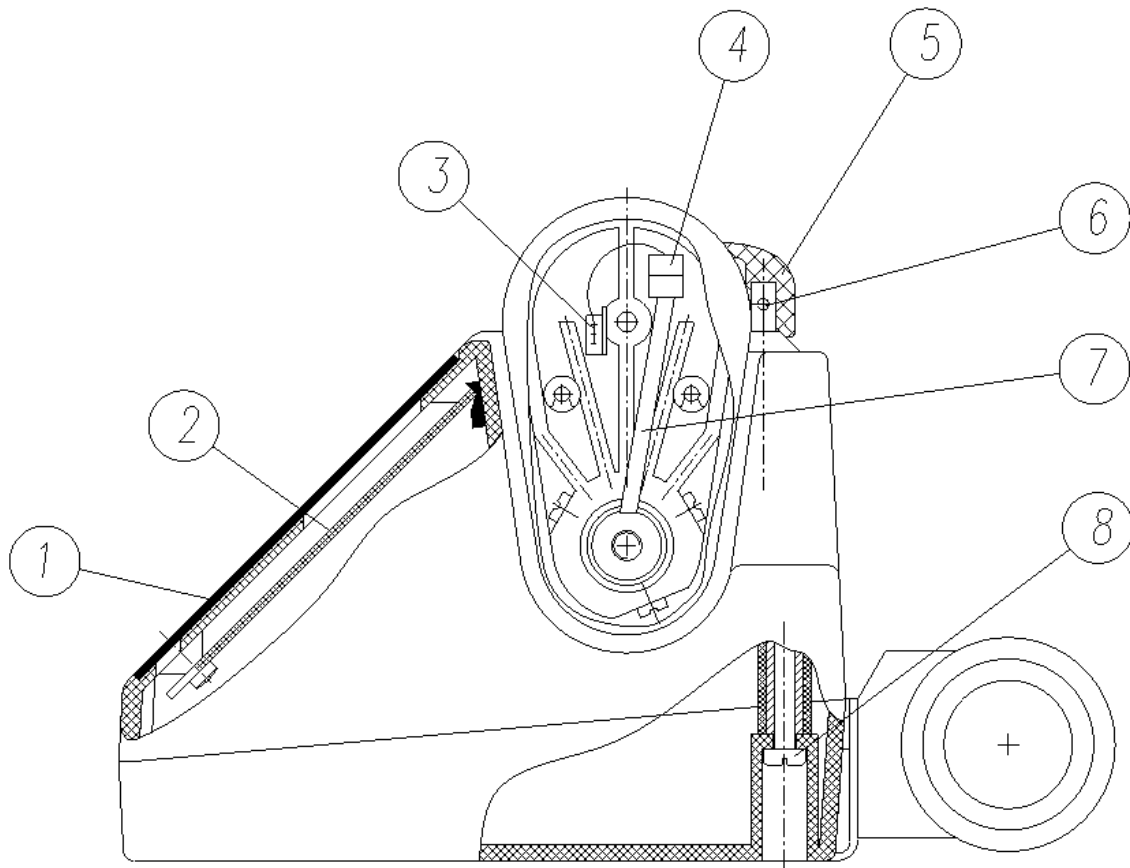
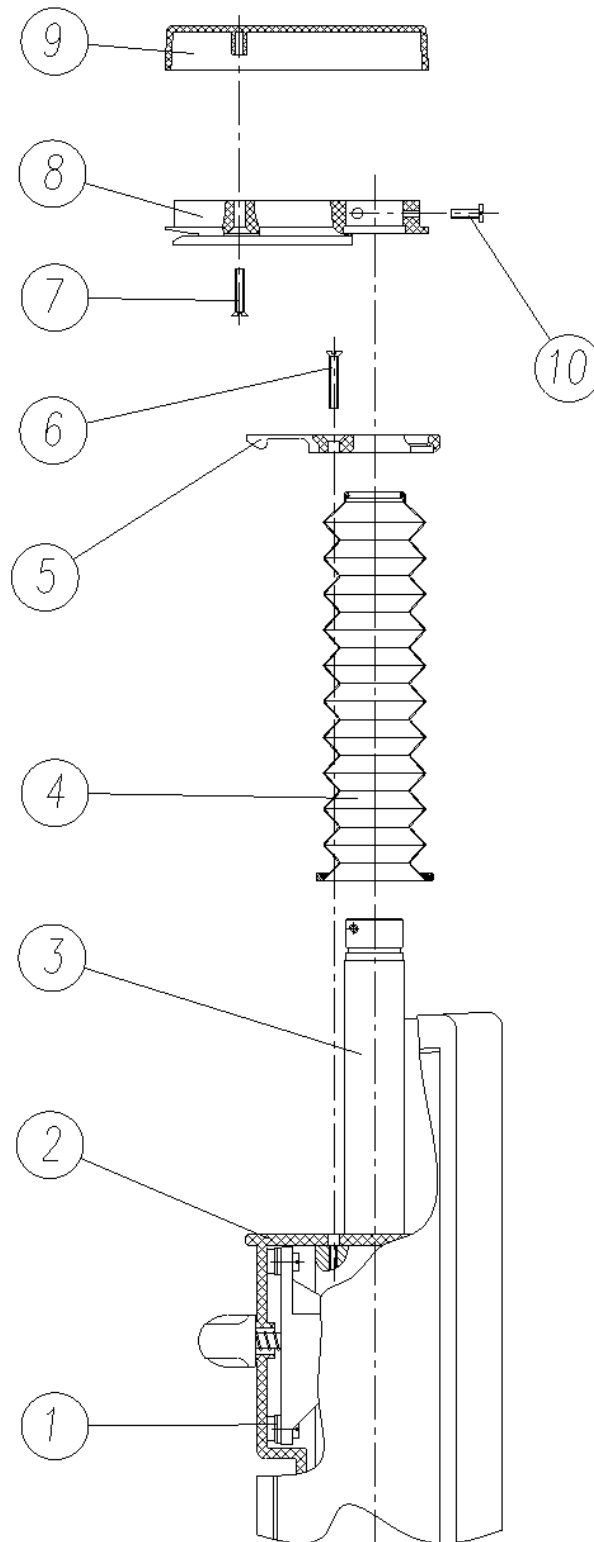

Fig. 3
Fig. 5
(FIG. 3, ANNEX C)
(FIG. 5)
◆ Remove screw (7) and cover (9). Disconnected the flexible cable (Fig. 3, pos. 7) from the connector (Fig. 3, pos. 4). Remove three screws (10) fastening the plate (8) to the tube (3) and remove the plate. Remove screws (6). Remove the rubber bellows (4) and the syringe holder (5) from the tube (3). The new rubber bellows (4) is inserted with its narrower end towards the notch on the tube (3). Spread the silicon sealer on the housing-side of the syringe holder (5) and install the syringe holder (5) in such a way as to clamp the end of the rubber bellows (4) between the syringe holder (5) and the housing (1). Replace the screws (6). Replace and fasten the plate (8) to the end of the tube (3) with screws (10) clamping the end of the rubber bellows (4). Connect the flexible cable (Fig. 3, pos. 7) to the connector (Fig. 3, pos. 4). Fasten the cover (9) with the screw (7).
(FIG. 3)
◆ Remove the screw (7) and the cover (9) (see Fig.5). Disconnect the flexible cable (7) from the connector (4). Remove the syringe sensor (3) with its connector (4). Glue the new syringe sensor (3) with its connector (4) on the same place at the same depth. Connect the flexible cable (7) to the connector (4). Fasten the cover (9) with the screw (7) (see Fig.5).
◆ Disassemble the pump according to the section 9.1. Remove the screw (6) and remove the syringe clamp (5) (see Fig. 3). Disconnect the syringe size sensor (2) connector P8 from electronic board B7048 (17). Remove two screws (1) and lift the syringe size sensor (2). Install the new syringe size sensor (2) and fasten by means of two screws (1). For pumps with 5 ml syringes install the new syringe sensor (2) via four washers (1) (see Fig.5) and fasten by means of two screws (1). Connect syringe size sensor (2) connector P8 to electronic board B7048 (17). Reassemble the pump in reverse order to the section 9.1. Perform syringe size calibration (see Chapter 6)